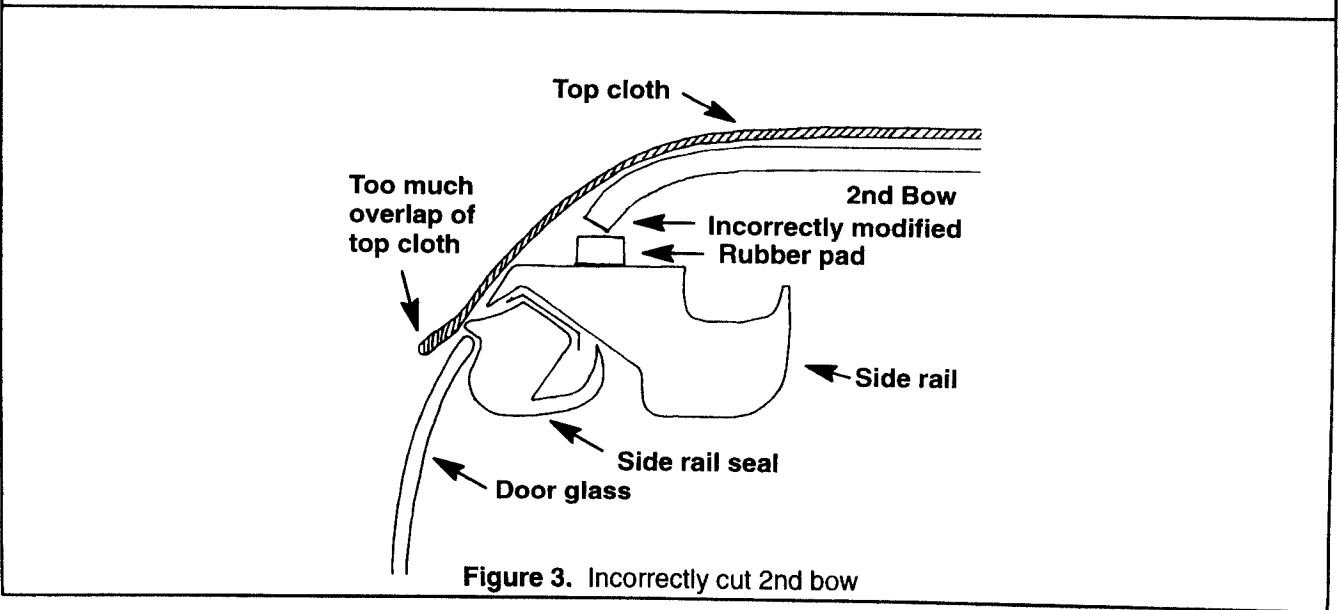

Figure 3. Incorrectly cut 2nd bow
- If the bow was incorrectly cut, the 2nd bow can be too low, causing the new top cloth to get caught between the door glass and the side rail seal. See Figure 3 .